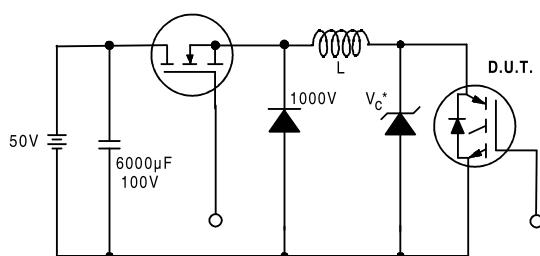

Figure 19. Clamped Inductive Load Test Circuit
- ② $V_{CC}=80\% (V_{CES})$, $V_{GE}=20V$, $L=10\mu H$, $R_G = 5.0\Omega$ (figure 19)
- ③ Pulse width $\leq 80\mu s$; duty factor $\leq 0.1\%$.
- ④ Pulse width 5.0 μs , single shot.